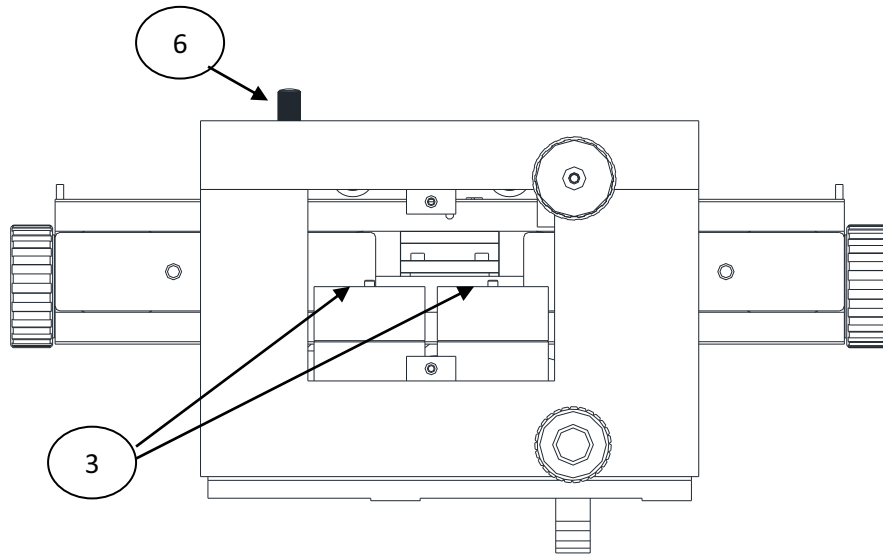

FIG.2
- 2.2 Open the front cover 8# of the Abbe measuring unit and remove the screws 3#, then close the front cover (Fig. 2).